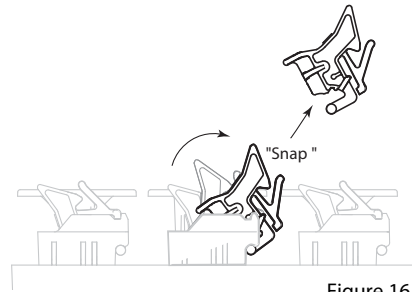

Figure 16
2. Push toggle out of its block cell by rotating it past its normal open position. This will cause it to break free of the holding mechanism in the block without damaging the block. (Figure 16)